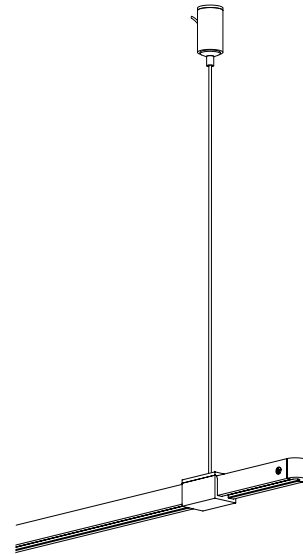

Fig. 3
3. Insert the cable into the post and adjust to the desired length: to shorten, push the cable up; to lengthen, push in the plunger while pulling down on the cable, release the plunger to lock. Cut off the excess cable where it exits the post. (Fig. 3)